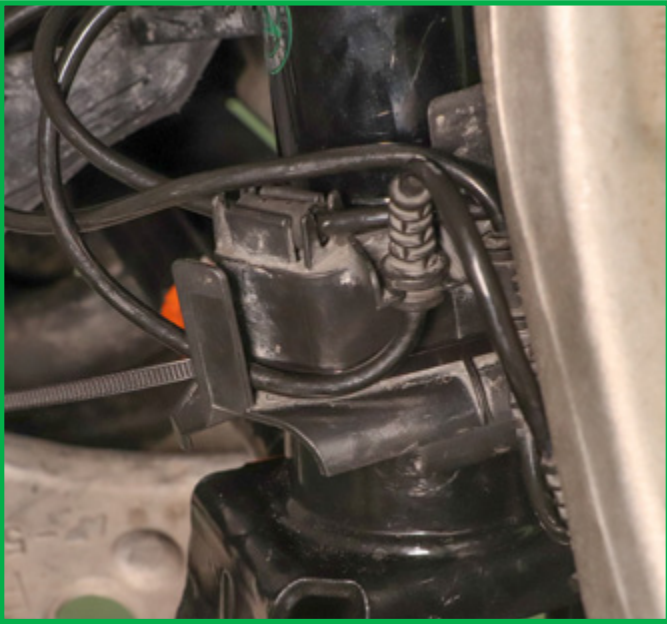

FIGURE 30
7. Reinstall wire guide and reroute all lines including brakes. Connect strut solenoid wire. Note: the wire guide may not sit perfectly on the shock body. Use zip ties as needed to secure the wire guide to the shock. (Figures 30, 31, 32)